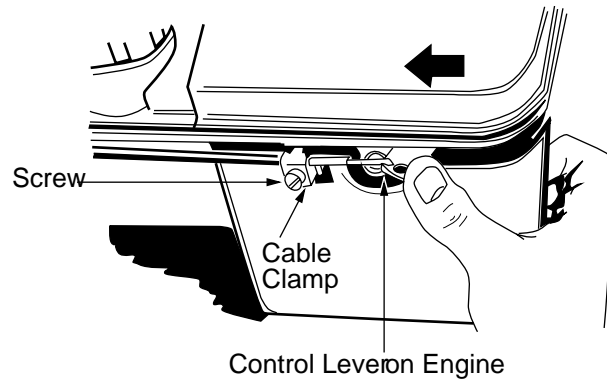

FIGURE 18
- Remove the screw shown in Figure 18. Remove the cable clamp from the cable.